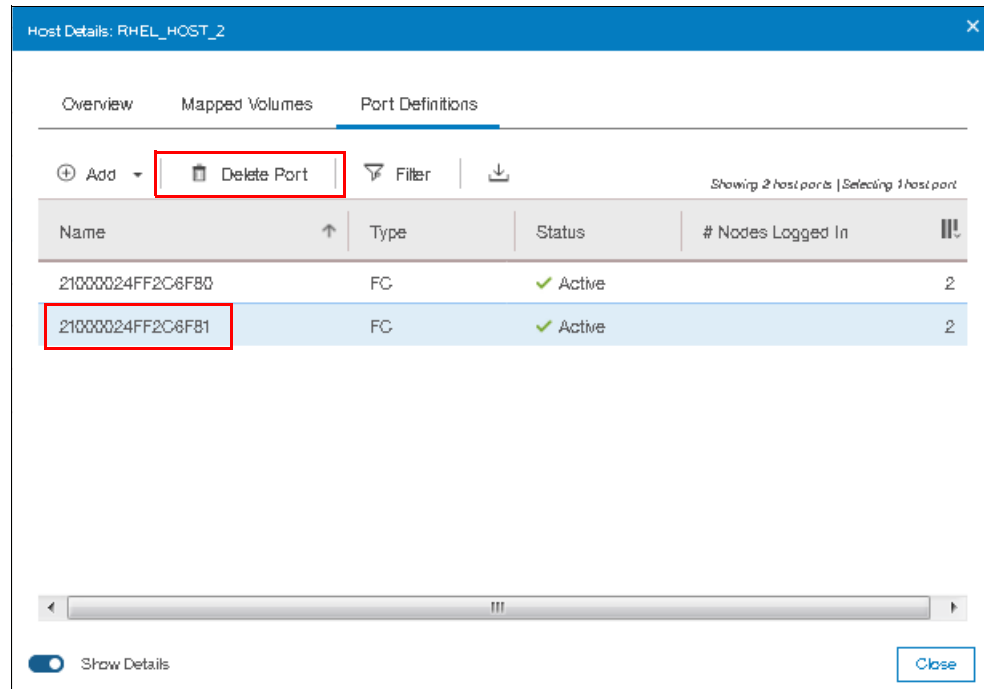

Figure 8-38 Delete Port operation
2. Select **Delete Port** as shown in Figure 8-38.